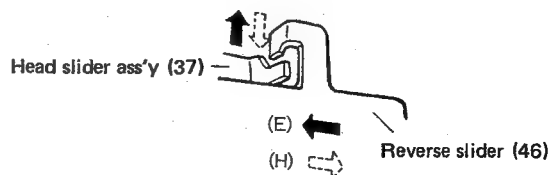

Fig. 23
- 12) At that time, the head slider ass'y (37) lifts the L.H. pinch roller lever ass'y (6B) and locks the reverse slider (46), which is always trying to return in the forward (H) direction, as shown in Fig. 23.